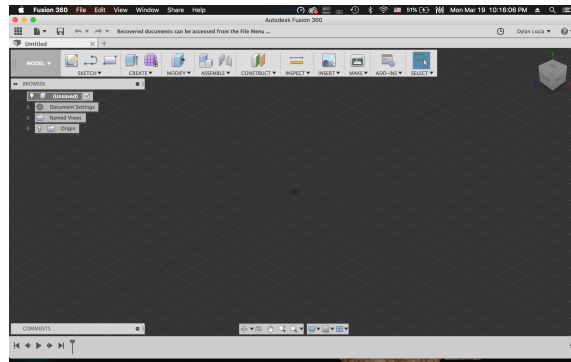

FIGURE 1.1: A BASIC FUSION WINDOW.
- Open Fusion. You should be met with a screen similar to the one shown in Figure 1.1.